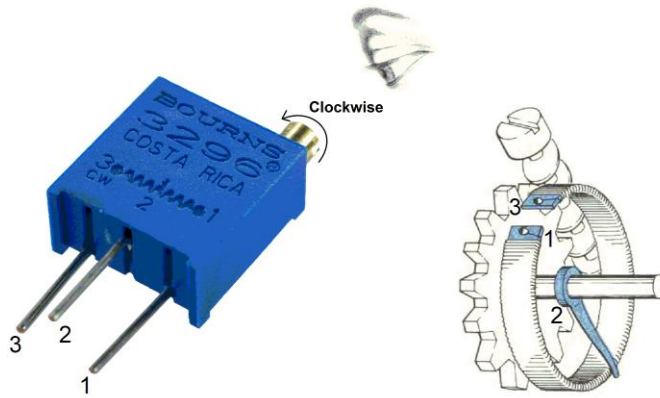

Figure 2: The internal structure of a 20-turn potentiometer.
Last week you soldered in a pair of 20-turn potentiometers, a 1k Ω and 100k Ω like that shown in the left side of Figure 2. Look closely at the notation imprinted on the surface of the potentiometer in Figure 2 and you will see the letters "CW" printed next to the number 3. This means that as you turn the brass adjustment screw in a ClockWise (CW) direction the center tap (terminal 2) moves closer to the left pin (terminal 3). This is accomplished using a worm drive mechanism; the brass adjustment screw engages a gear attached to the center tap. The geared center tap moves around